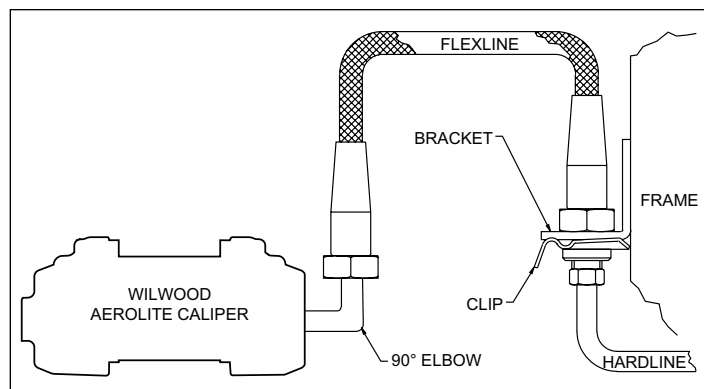

Figure 4. Brake Line Diagram
•**NOTE:** The caliper in this brake kit utilizes a 1/8-27 NPT pipe thread inlet. OEM rubber brake hoses generally cannot be adapted to Wilwood calipers. Install Wilwood's stainless steel braided flexline hose kit, part number 220-8177 for C5, 220-9101 for C6 (both sold separately), as shown in Figure 4 (use PTFE tape on pipe threads of adapter fitting for proper sealing to caliper). **NOTE:** The specified Wilwood hose kits may not work on all Years, Makes, or Models of the vehicle that this brake kit is applicable to, due to possible OEM manufacturing changes during the vehicle's production life. **Carefully route hoses to prevent contact with moving suspension, brake, and wheel components.** It is the installer's responsibility to ensure that all fittings and hoses are the correct size and length, that they are properly sealed, and that they will not be subjected to crimping, strain, or abrasion from vibration or interference with suspension, brake, or wheel components.